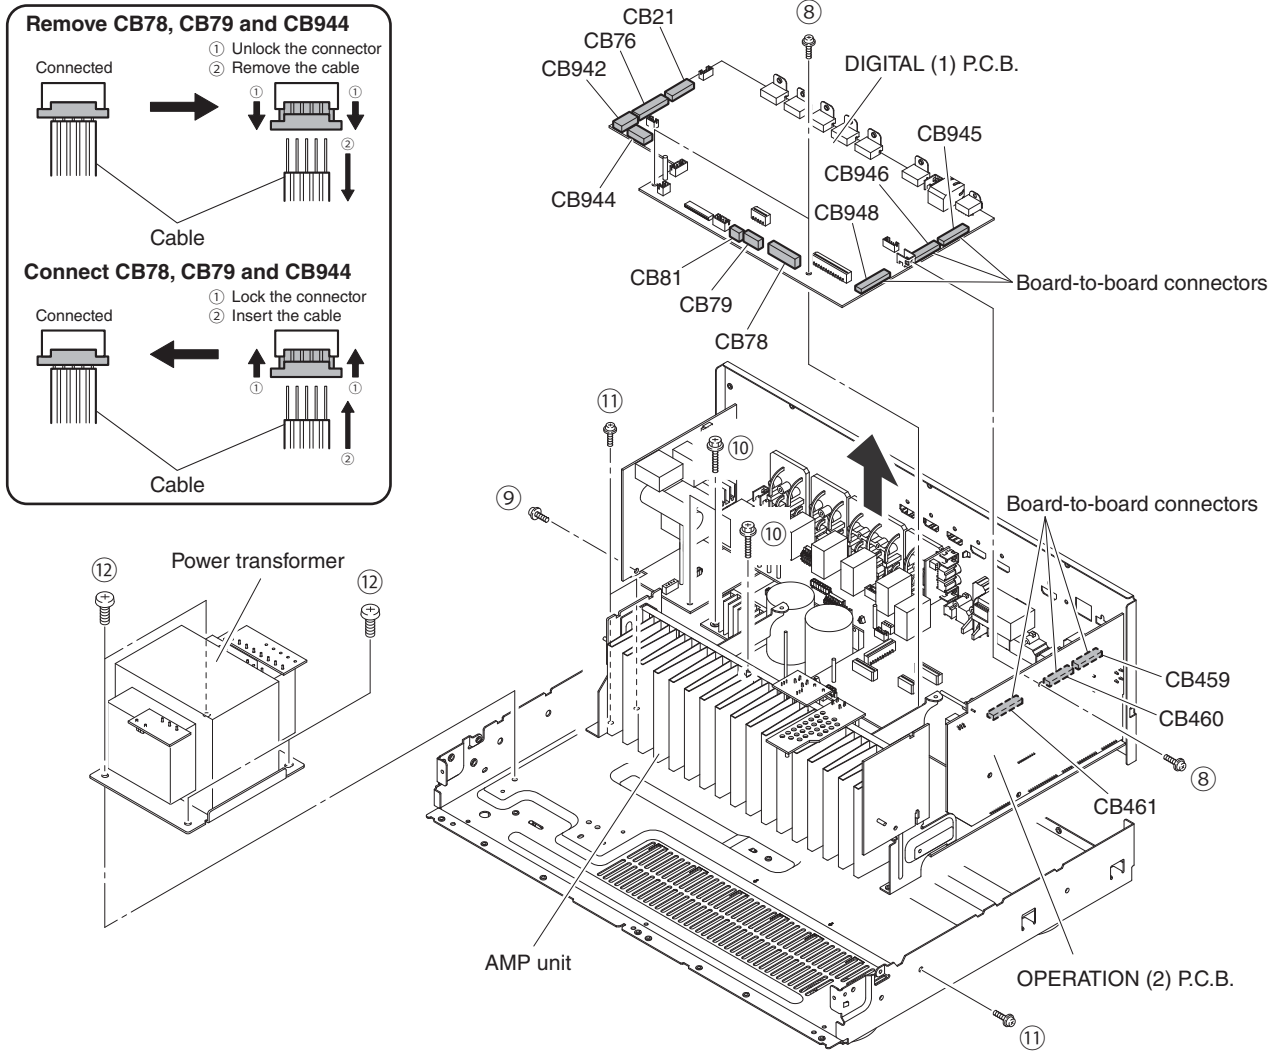

Fig. 2
- b. Remove 3 screws. (8). (Fig. 2)
- c. Remove CB21, CB76, CB81 and CB942. (Fig. 2)
- d. Unlock and remove CB78, CB79 and CB944. (Fig. 2)
- e. Remove the DIGITAL (1) P.C.B. which is connected directly to the OPERATION (2) P.C.B. with board-to-board connectors. (Fig. 2)
- a. Remove screw (9), 3 screws (10), 3 screws (11) and 4 screws (12). (Fig. 2)
- c. Remove the AMP unit together with the power transformer. (Fig. 2)